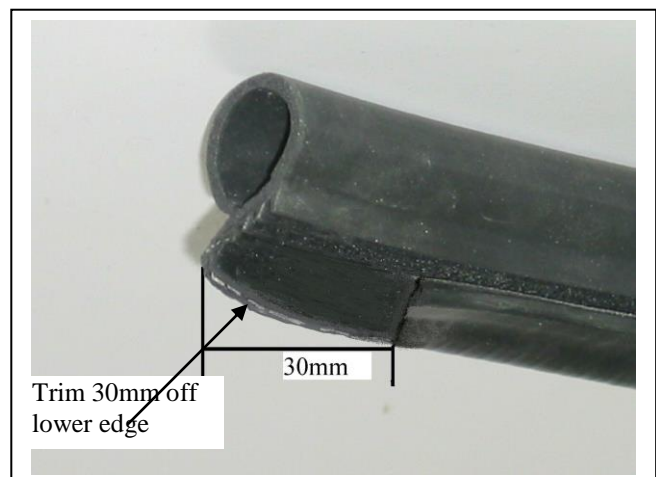
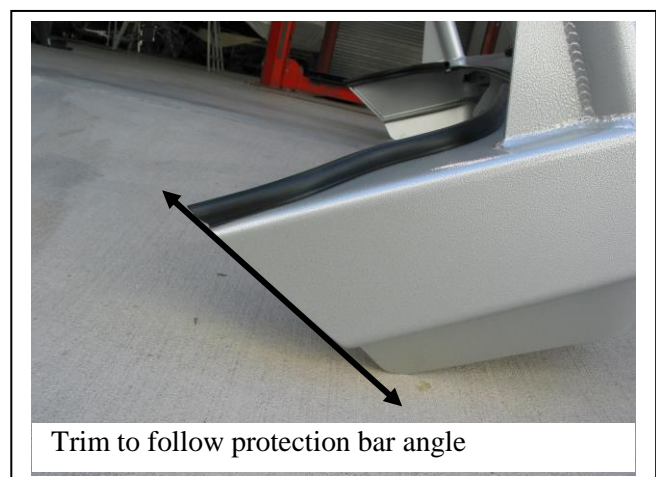

Figure 4
Figure 6
8. Attach infill trim (supplied) to top sides of ECB protection bar. NOTE: Trim 30mm off lower edge so trim will sit over end of protection bar. **See figures 4 and 5.** Trim excess off end to follow protection bar. **See figure 6.** NOTE: Seal any exposed edges of trim with silicone or similar to avoid corrosion of inner steel.